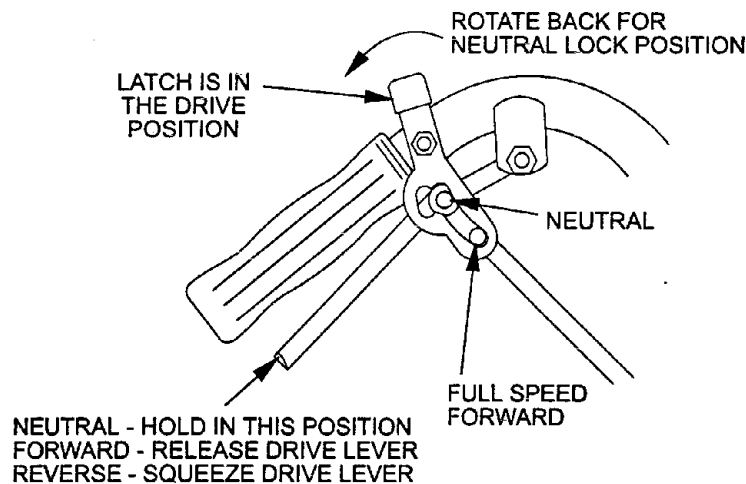

FIG. 4
- 4.1.1 Drive Levers: Located on each side of the upper handle assembly directly below the handle grips (See Figure 4). These levers individually control the speed and direction of each drive wheel. When the speed control lever is moved out of the neutral position and the lock latches are moved into the drive position, as shown in Figure 4, and the drive levers are released, the drive wheels are engaged in the forward direction.
- 4.1.2 Neutral Lock Latch: Located directly above the drive levers. These latches allow the operator to lock the drive levers in a "neutral" position where neither of the drive wheels are engaged in either a forward or reverse direction. See Figure 4.
- 4.3.3 Drive Lever/Neutral Lock Latch Operation: To lock the drive levers in neutral, squeeze the drive levers back to the neutral position (*Do Not squeeze the drive levers all the way back as this will cause the drive wheels to go into full reverse direction*). Place thumbs on the upper portion of the neutral lock latches and move them to the rear. Release drive levers (See Figure 4).
To back up, squeeze both drive levers into the reverse position (See Figure 4).